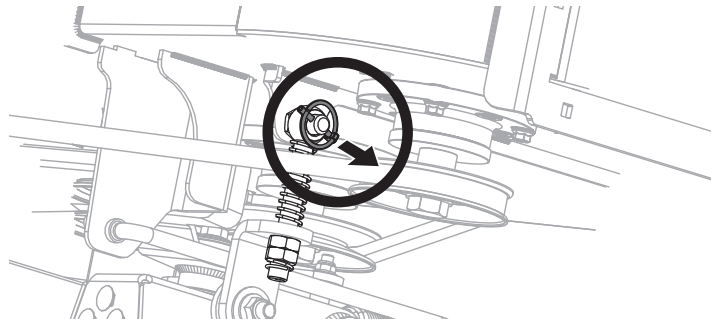

Fig. 43
- Remove lynch pin from right, rear deck lift link (Fig. 43).